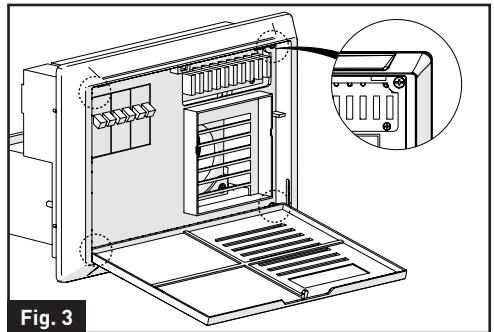

Fig. 3
4. Loosen the screws that hold the housing at the four corners using a Phillips screwdriver. (Fig. 3)